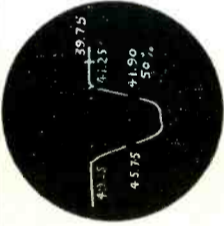

FIG. 3
- Adjust bottom of T-7 and T-8 to produce curve as shown on Figure 3.